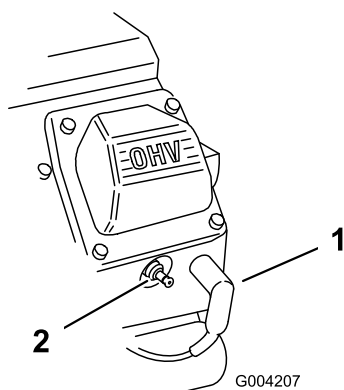

**Figure 155**
3. Assemble the spark-plug wires onto the spark plugs (Figure 155).